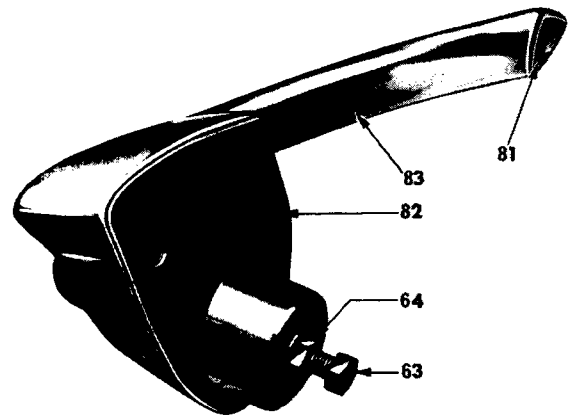

Fig. 70. Exterior handle details
2. **To Adjust Push Button (Fig. 70)**
- (b) Slacken the locknut (64) and adjust the bolt (63) to give a clearance of $\frac{1}{8}$ " between the bolt head and the lock lever. Finally re-tighten the locknut (64).